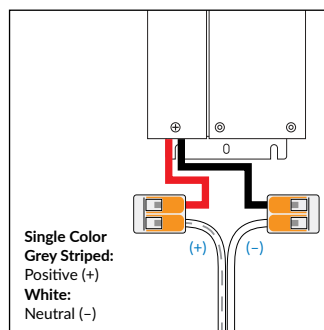

Figure 11
- Use UL approved wire connectors to make the connection between the power cable's bare wire ends and a compatible power source, control component, or additional lead wire (figures 11, 12, 13).